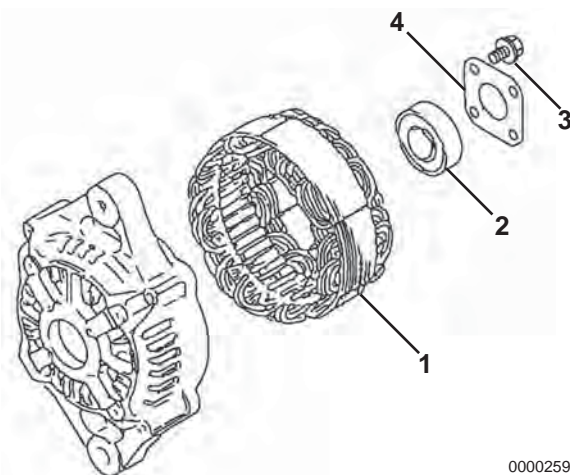

Figure 11-13
- If removed, lubricate the outside diameter of a new front frame housing bearing. Press the bearing (**Figure 11-13, (2)**) into the front frame housing. Reinstall the plate (**Figure 11-13, (4)**) to the front housing. Tighten the four bolts (**Figure 11-13, (3)**).
3. Position the stator assembly (**Figure 11-13, (1)**) on the front frame housing studs.